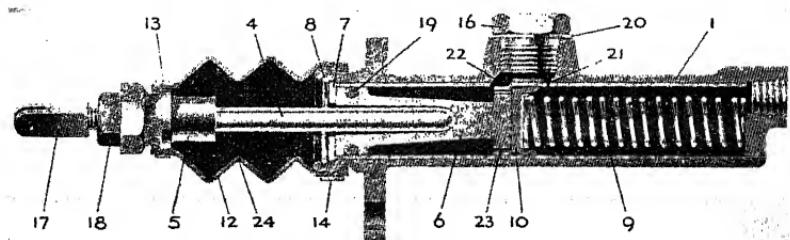

FIG. 22.—Master cylinder for Goodyear airplane brake.
**Goodyear Master Cylinders.**—As control of an airplane on the ground requires separate or divided wheel control, a master cylinder is used for each wheel (Fig. 22). These master cylinders are designed for aircraft use and made of special lightweight alloys. They are known as barrel type, compensating master cylinders and three sizes are available: 1 in.,  $1\frac{1}{2}$  in., and 2 in. I.D.